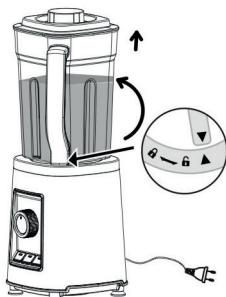

Fig 6
- Switch off the blender once the mixing process is complete and turn the function selector (14) to OFF. Unplug the appliance. Fig 6.